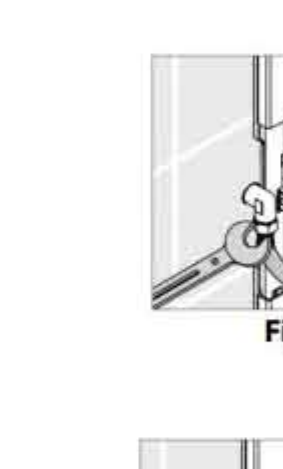

Figure 9
- Install the center and bottom screws and washers. (See Figure 9.)